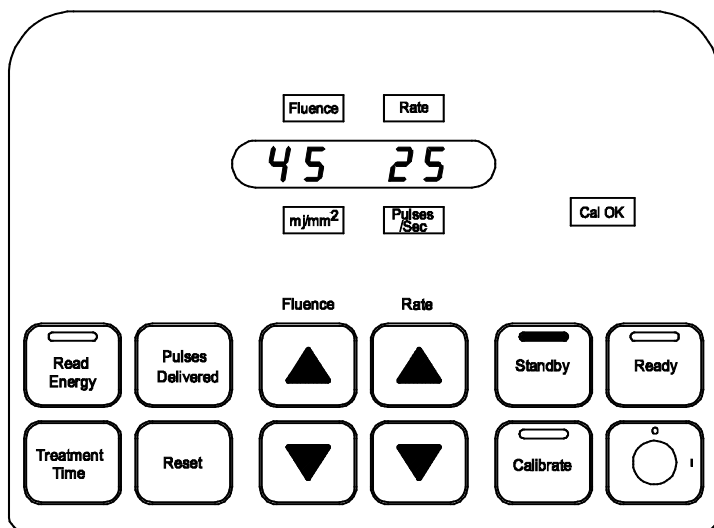

Figure 8
1. **Standby** mode is entered from the **Calibrate** mode by depressing the **Standby** button. (Figure 8)
4. The **Cal OK** advisory light remains illuminated. (Figure 8)